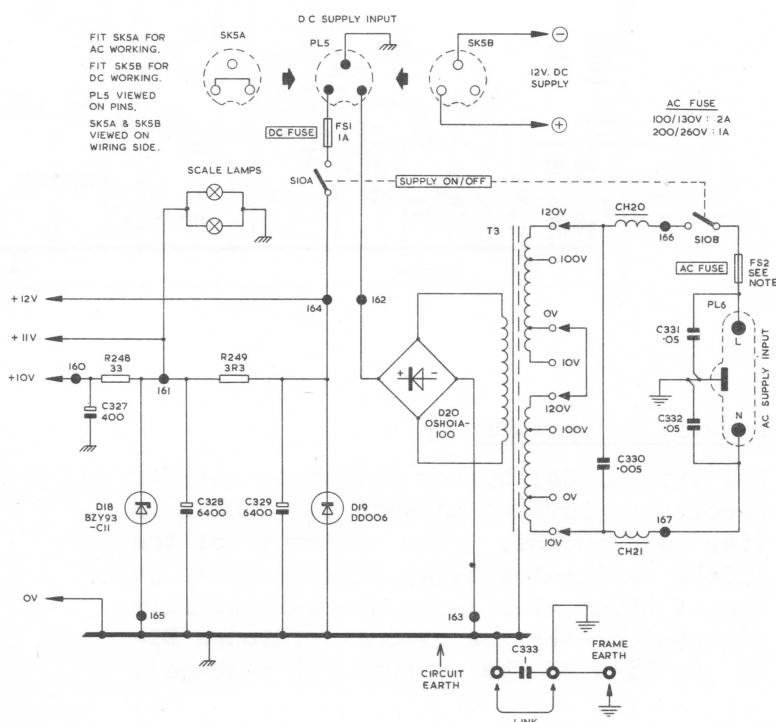

Fig. 1. Power Supply Circuit for early 1830 Series Receivers.
4. The power supply wiring is as shown in Fig. 1.
5. The DC supply connector must be in place for AC working, with link wired as shown in Fig 1 (see SK5A). The receiver is disabled if link is omitted.